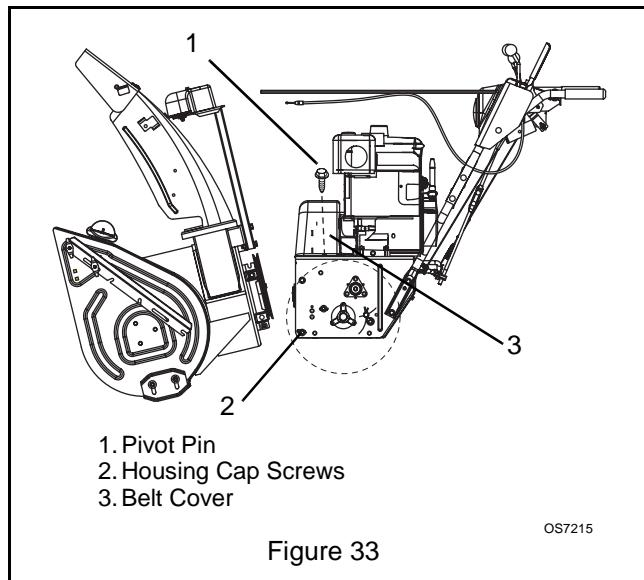

Figure 33
2. Remove belt cover (Figure 33).
7. Remove hex bolts securing housing to frame (three on each side). Tip housing and frame apart on pivot pins (Figure 33).